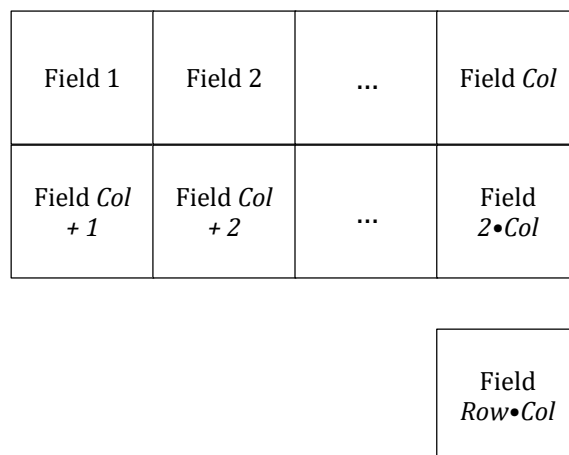

Figure 11 Field numbering scheme.
1. *Field Rows* and *Field Columns*: Used to specify the number of rows and columns of non-overlapping fields into which the image is divided for analysis. This feature allows the macro to be run on computers that do not have enough memory to analyze an entire image. Fields are numbered 1 through $Rows \cdot Columns$ from left-to-right and top-to-bottom, as shown in Fig. 11. Setting both parameters to “1” will analyze the entire image as one field.